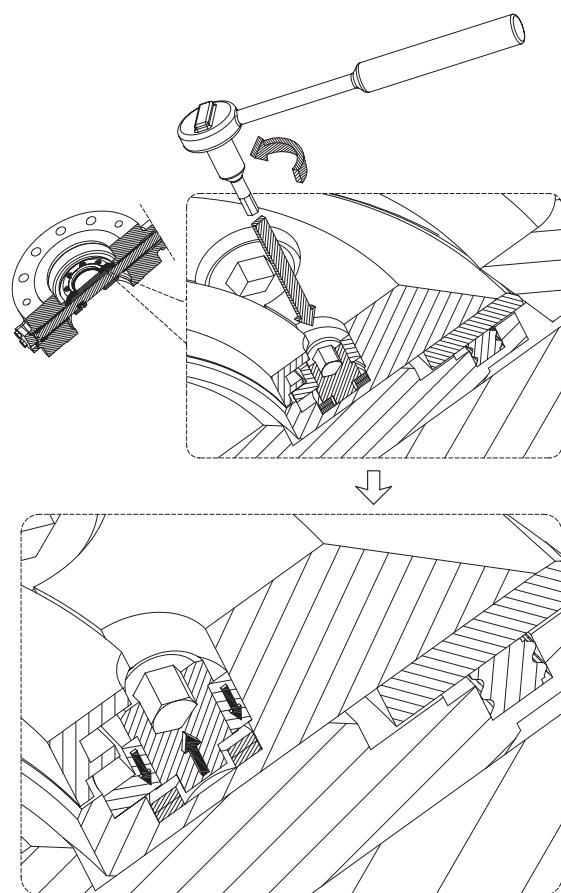

FIGURE 6
2. Disengage the locking nut (2h) by turning the grub screws (2g) counterclockwise - figure 6: